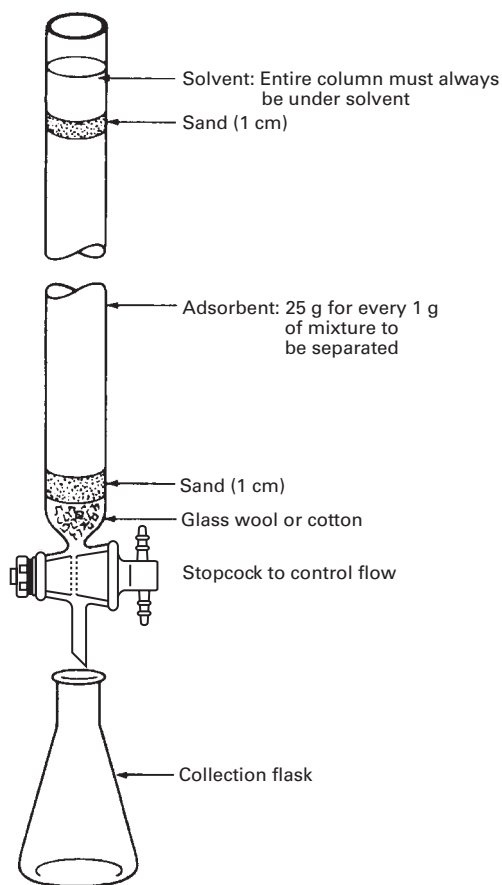

FIGURE 28.1 Wet-column chromatography setup.
1. The adsorbent is supported by a glass tube that has either a stopcock or a piece of tubing and a screw clamp to control the flow of eluent (Figs. 28.1 and 28.2). You can use an ordinary buret. What you will use will depend on your own lab program. Right above this control, you put a wad of cotton or glass wool to keep everything from falling out. *Do not use too much cotton or glass wool*, and